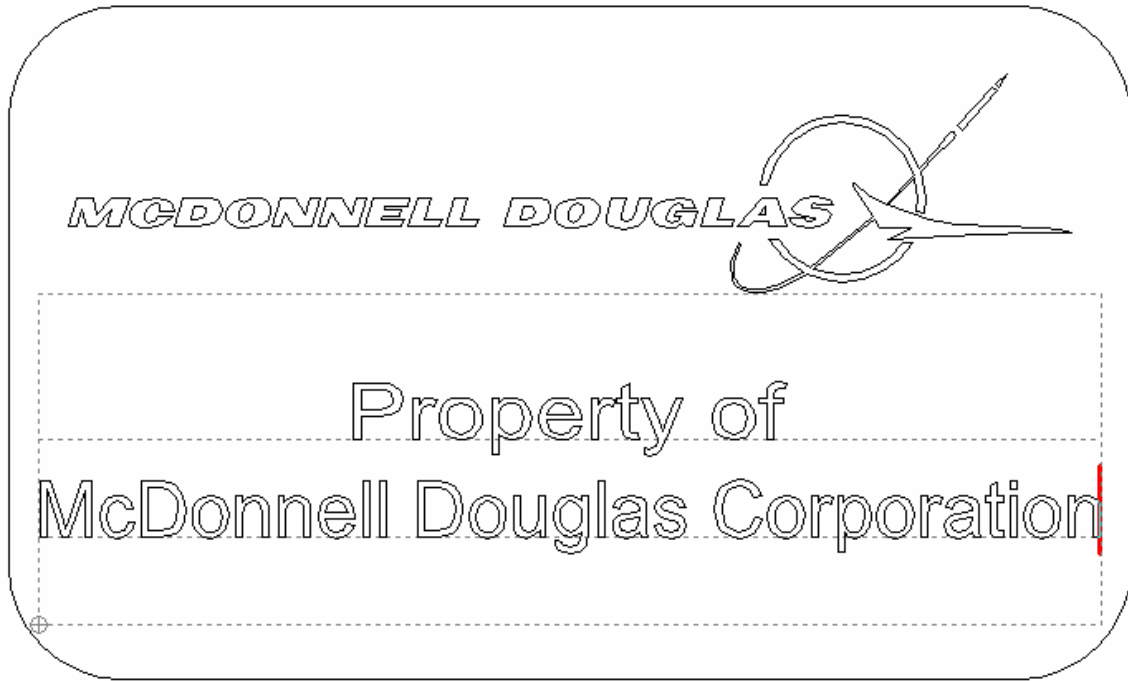

Figure 11-11 Text Entered
- Let's enter the text as in Figure 11-11. Drag a "Text Inside Rectangle" box in the text area to the size that we want the text to fill. Choose Arial font with a character height of **.125** inches and specify center justification. Type "Property of McDonnell Douglas Corporation" on two lines. Or you can copy and paste from the previous sentence into **GravoStyle5**. The Copy shortcut is Ctl+C and the Paste shortcut is Ctl+V.
We'll now type in our text and the result is shown in Figure 11-11. The text automatically compressed as we entered it on the second line, but we judge this to be visually acceptable.